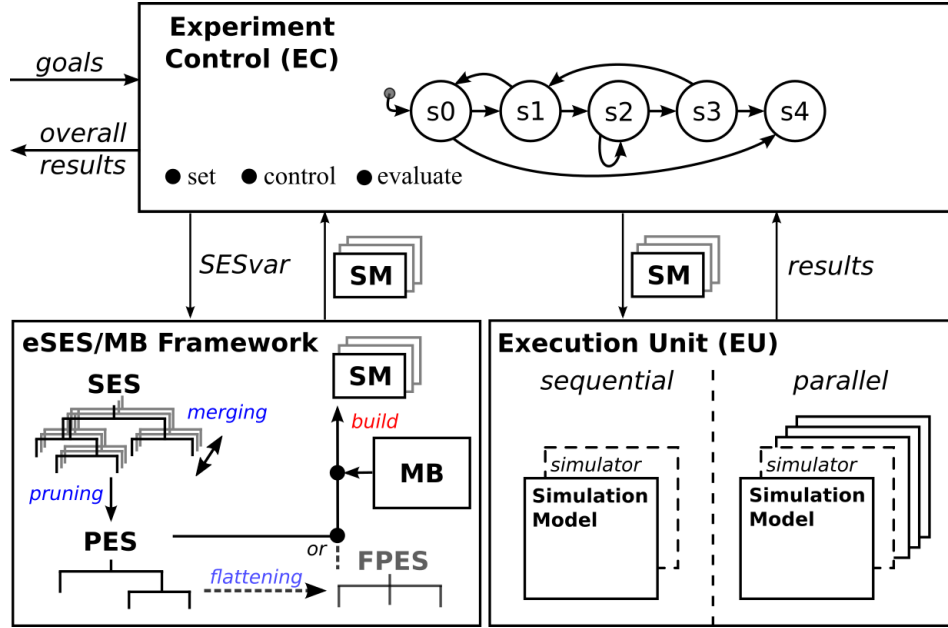

Figure 1.1: Extended SES/MB-based infrastructure.
As shown in detail in the documentation of SESToPy the SES can be connected to an MB for generating models. It was extended to allow automatic model generation and execution of models. The process is depicted in Figure 1.1.
SESEuPy is used for automatic execution of simulation model (SM)s in the context of the infrastructure given in Figure 1.1. In the following sections of this chapter information on the function of SESEuPy shall be given.
As seen in Figures 1.1 and 1.2, SESEuPy receives a number of SMs to execute. Then the SMs can be executed sequential or in parallel. The simulation results are collected and returned.